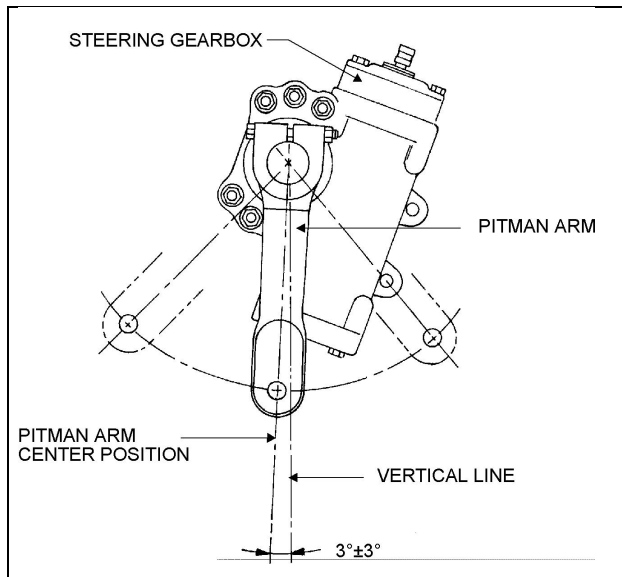

FIGURE 4: PITMAN ARM ADJUSTMENT
3. The pitman arm should be adjusted to an angle of  $3^{\circ} \pm 3^{\circ}$  in relation with the vertical axis (towards rear of vehicle), refer to Fig. 4 for details. If not, unscrew and remove bolt, nut and washer. Remove the pitman arm according to the procedure outlined under previous heading "11.1 REMOVAL". Adjust to the proper angle.